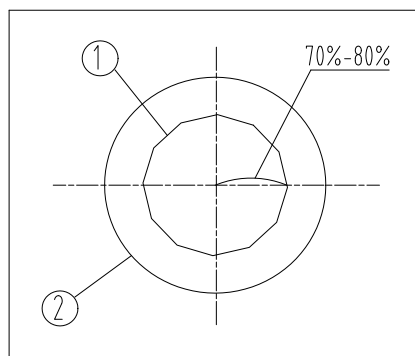

Fig. 13
2. Adjust condenser adjustment knob ③ in clockwise direction, raise the condenser to the top, let the illumination light fills the field of view. As the specimen contrast is usually low, it is advised to adjust the condenser aperture diaphragm to be 70%-80% of the N.A. of objective. Rotate the aperture diaphragm adjusting ring ④, align the arrow with the magnification position on the diaphragm seat ⑤. The eyepiece can be taken off when it's necessary to observe from the tube. Adjust the aperture diaphragm adjusting ring ④ until see the figure as shown in Fig. 13, to adjust the proportion (see Fig. 13&14, ① is the image of aperture diaphragm, ② is the edge of objective).